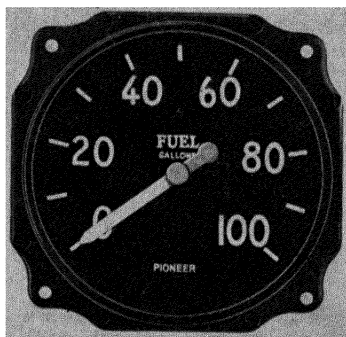

Fig. 276.—Fuel gage. (Courtesy of Pioneer Instrument Division of Bendix Aviation Corp.)
1. At what r.p.m. is it most economical to operate the engine shown in Fig. 276, as far as gasoline consumption is concerned?
The capacity of the fuel tanks in gallons is always given in aircraft specifications. An instrument such as that appearing in Fig. 276 shows the number of gallons of fuel in the tanks at all times.